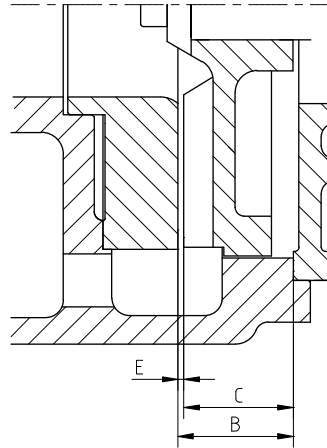

Figure 7: Clearance between impeller and wear plate, FRE bearing group 1.
- 2 Measure the distance B between wear plate and pump casing, see figure 7.
- 3 Measure the distance C between impeller and intermediate cover, see figure 7.